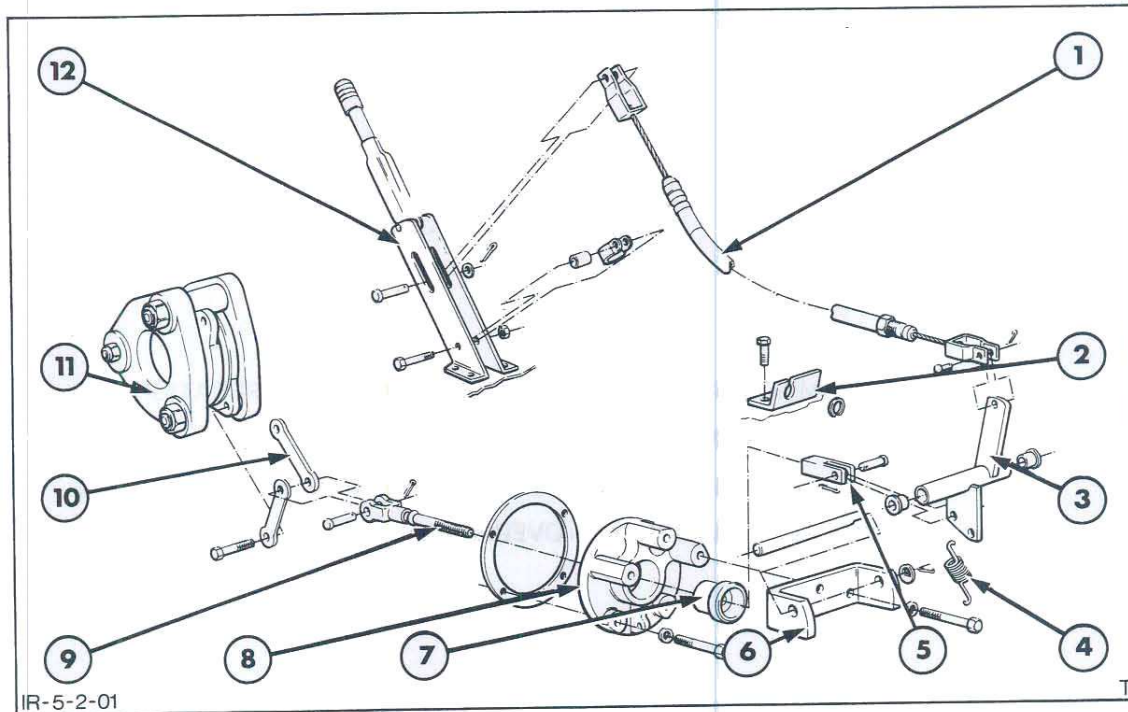

Figure 1
3. Remove the actuating rod clevis pin to disconnect the bellcrank from the actuating rod, Figures 1 and 2. Disconnect the return spring from the bellcrank. Remove the bellcrank bracket